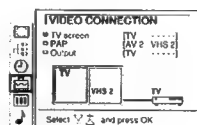

Fig. 50
- 1 Select the symbol for «Video Connection» with Δ + or ∇ - and press OK. The VIDEO CONNECTION menu appears. (See Fig. 50)